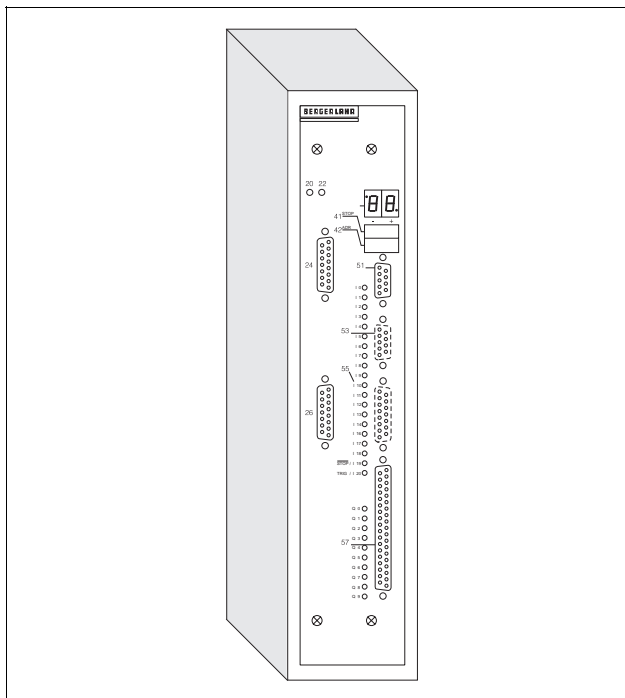

Fig. 1-1 WP-311 in 3-phase housing
- WP-311 in 3-phase housing (fig. 1-1), matching the 3-phase stepping motor product family